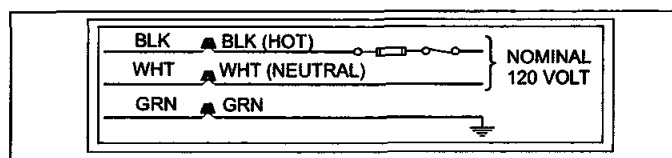

FIGURE 15: Line Wiring Connections
- The furnace's control system requires correct polarity of the power supply and a proper ground connection. Refer to Figure 15.